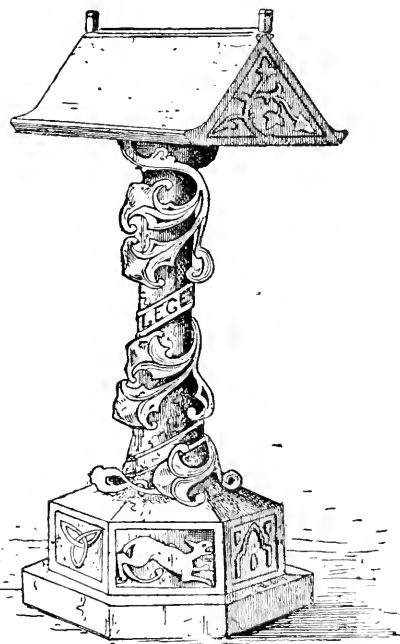

Fig. 78. LECTERN.
*Lectern.* A church reading desk. This has always been a favourite subject with wood-carvers, Fig. 78.